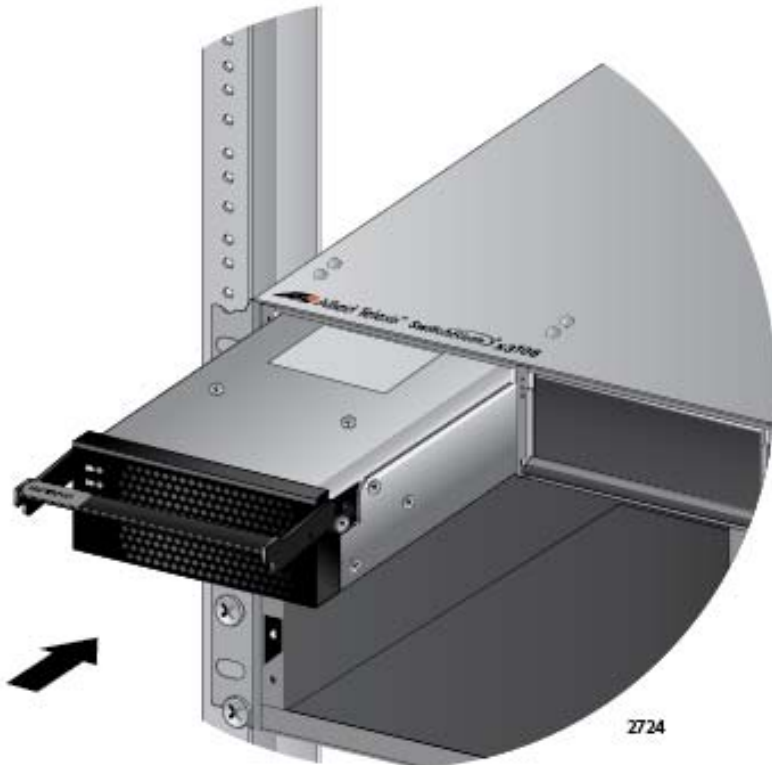

Figure 64. Inserting the AT-SBxPWRPOE1 AC Power Supply
5. Align and insert the AT-SBxPWRPOE1 Module into power supply slot A or B. Figure 64 shows the power supply being installed in power supply slot A.